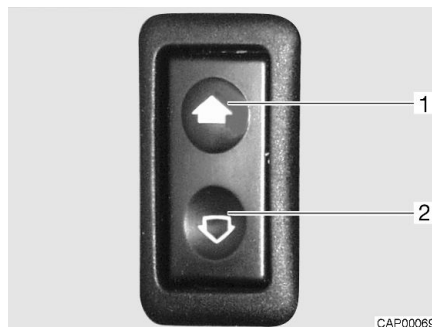

Fig. 12 Switch (electrical window winder)
- Opening:* ■ Press the lower part of the switch (Fig. 12,2).
- Closing:* ■ Press the upper part of the switch (Fig. 12,2).